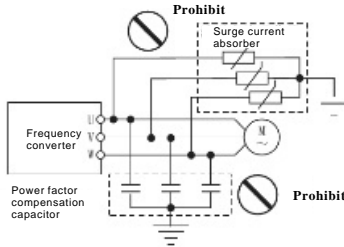

Figure 1-3
- Because the output voltage of the inverter is PWM pulse wave, please do not install capacitors or surge current absorbers (such as varistors) at its output end, otherwise it will cause the inverter to trip and even damage the power components. If it has been installed, be sure to remove it. See Figure 1-3.